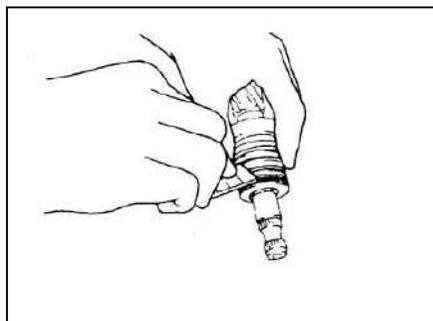

Fig 17-25
3) SEAL RING REMOVAL(See fig 17-25)